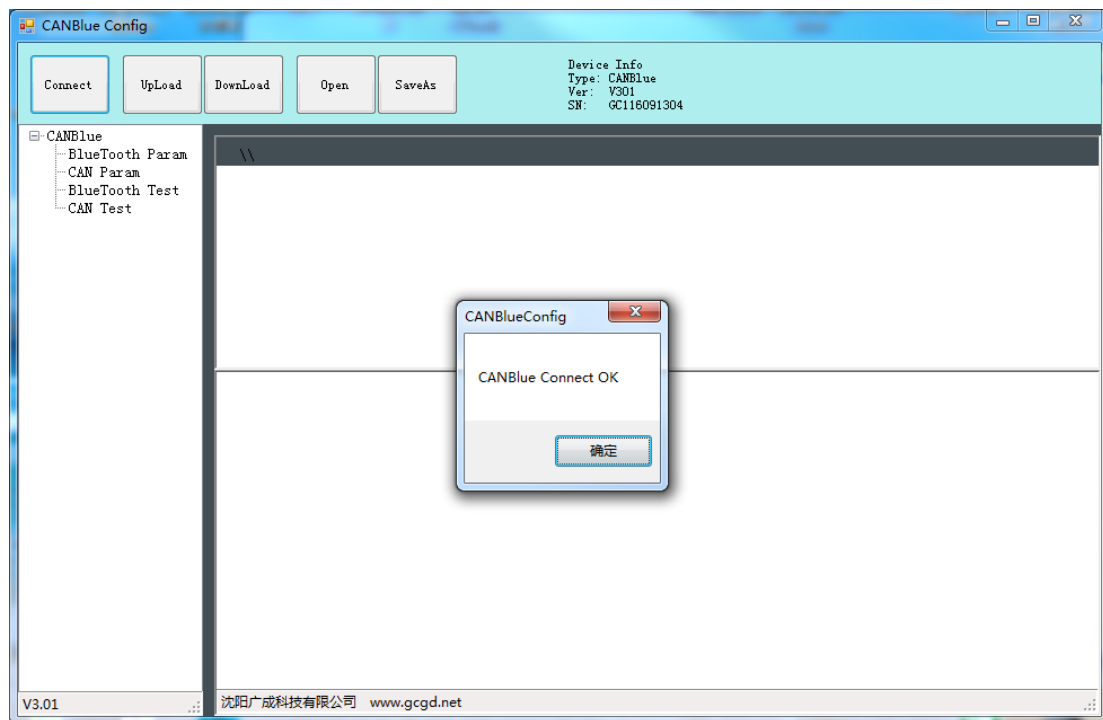

Figure 3.1 CANBlue Config software interface
Open "CANBlue Config" software in the "②CANBlue 模块配置软件" document to configure the converter. Click "Connect" to connect the converter. The connection is shown in figure 3.1.